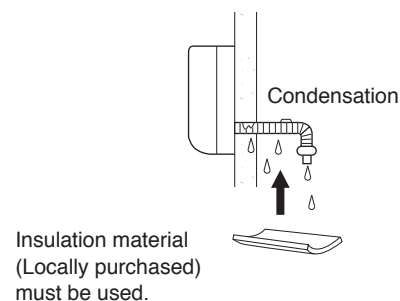

Fig. 45
- c) If the drain hose will run in the room, insulate the hose with insulation\* so that chilled condensation will not damage furniture or floors. (Fig. 45)